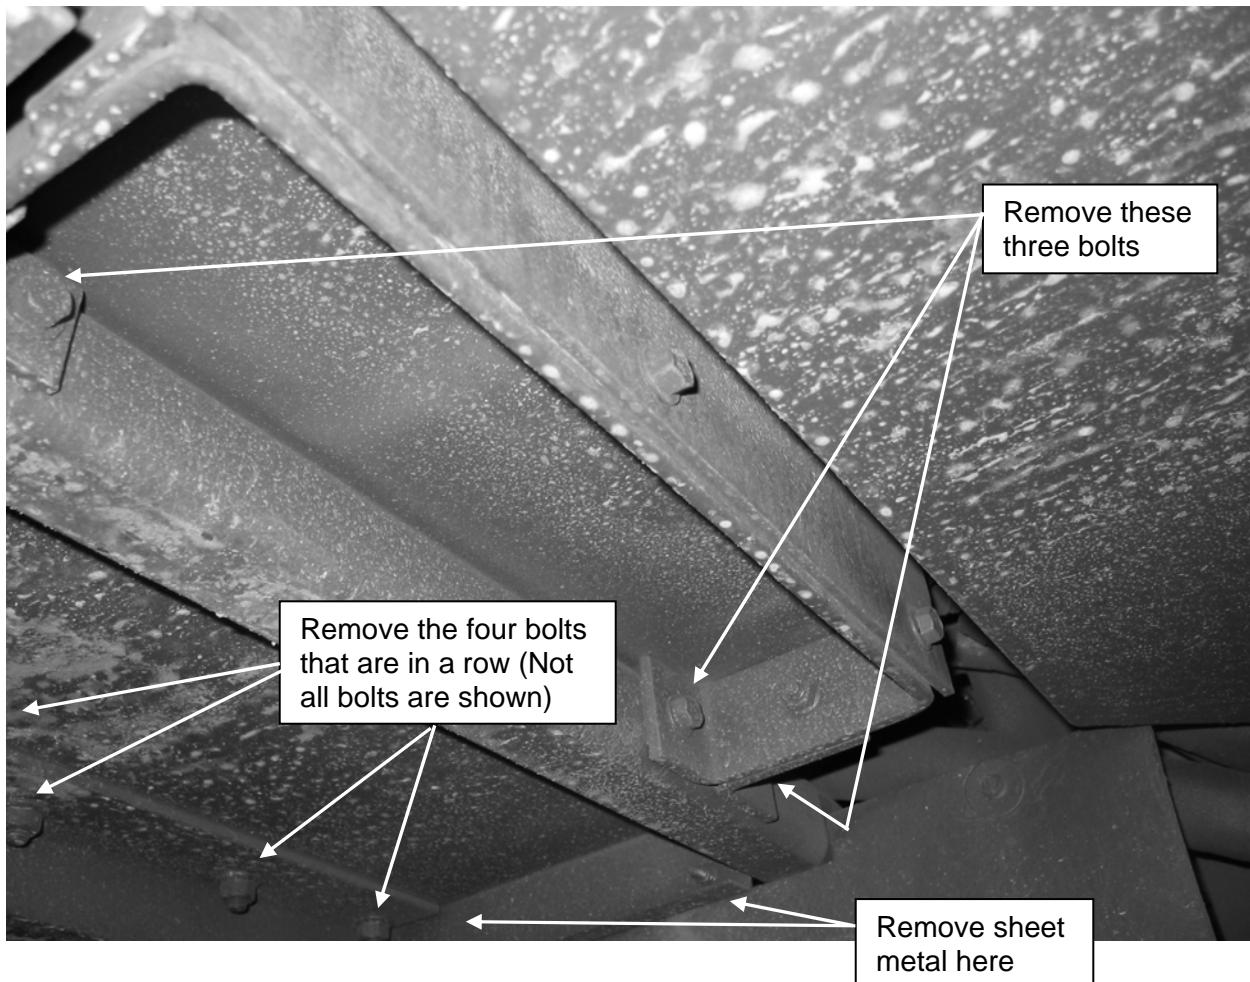
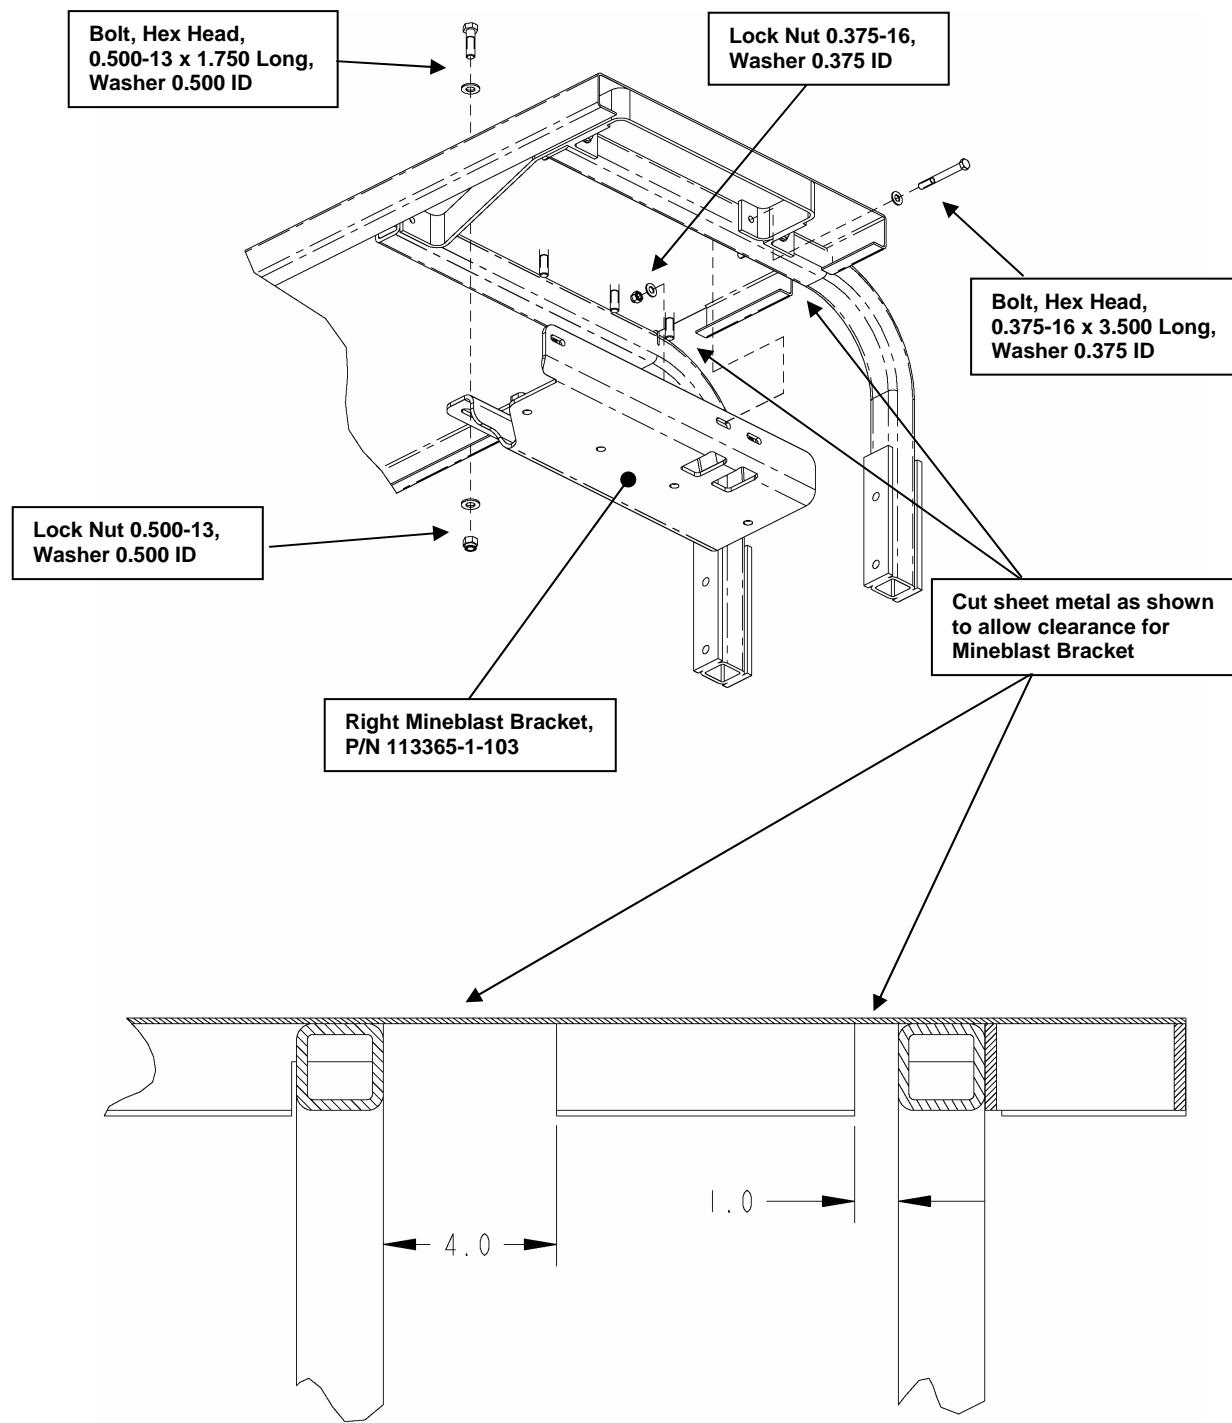

**Figure 60. Left Mineblast Bracket location.**
**Figure 61. Underbody Attachment Bracket, Left Side.**
- f) Remove the four bolts shown in Figure 60.
- g) Remove a section of sheet metal from underneath the front wheel well, as shown in Figure 60 and Figure 61. This is needed to provide clearance for the Left Mineblast Bracket (P/N 113364-1-103).
- h) Install the Left Mineblast Bracket to the support rail using the hardware shown in Figure 61.